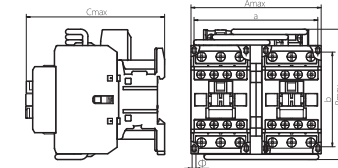

Figure 4 Outline and installation dimensions of NC8-09/N~38/N series AC contactors
3.4 See Figure 4 and Table 7 for outline and installation dimensions and wiring capacity of NC8-09/N~38/N series AC contactors.